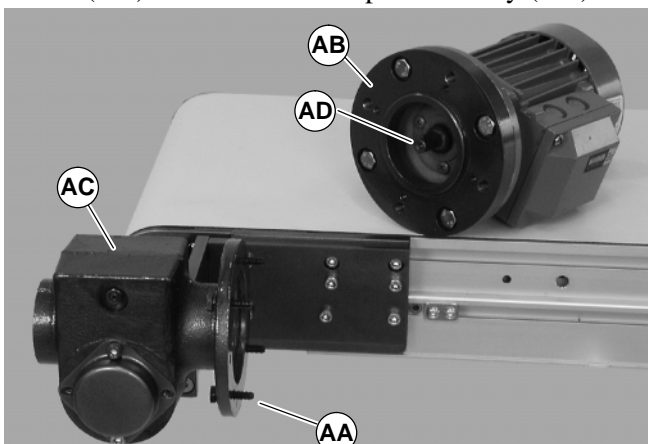

Figure 18
3. Remove four (4) screws (AA of Figure 18). Detach motor with adapter flange (AB) from gear reducer (AC). Retain motor output shaft key (AD).